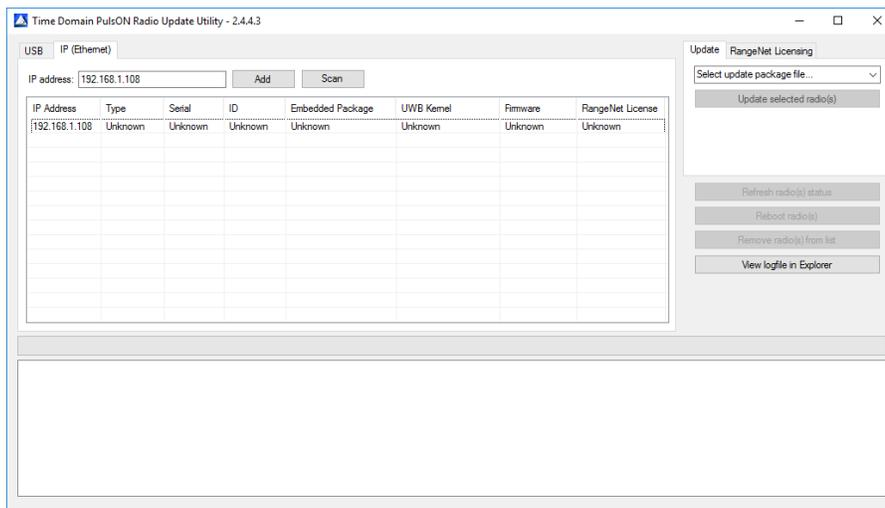

Fig. 2: Update Utility IP (Ethernet) window showing connection status
1. If not already present, then enter the radio IP address in the "Add Radio IP Address" field and click "Add." The screen shown in **Figure 2** will appear.